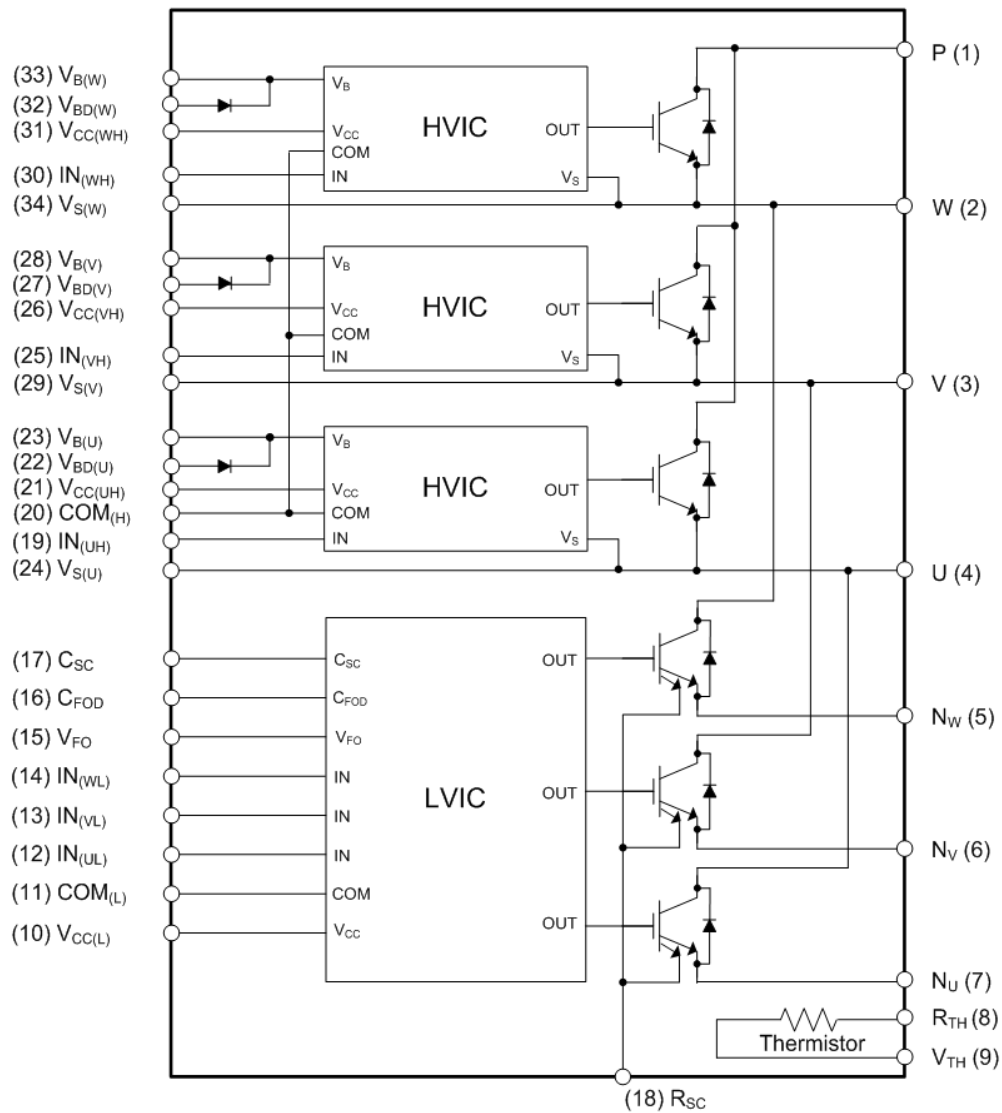

Figure 3. Internal Block Diagram
- 600 V - 75 A IGBT inverter for three-phase DC / AC power conversion (*refer to Figure 3*)